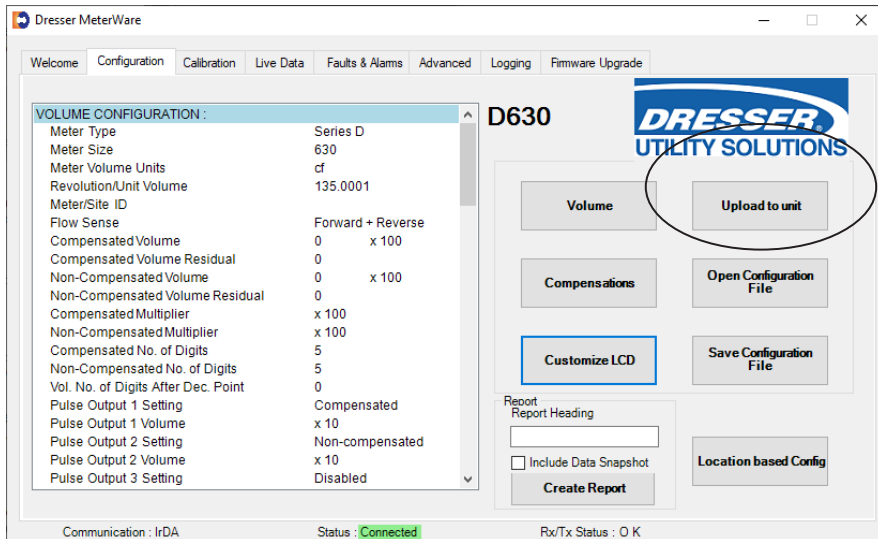

Figure 10.3 Example - Configuration screen in Dresser MeterWare
- Once back on the Configuration screen (Figure 10.3 Example), select Upload to unit.